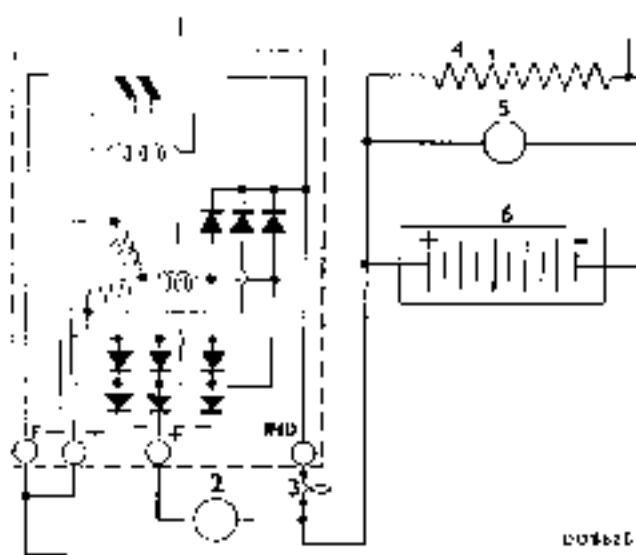

Fig. N.26
4. Connect test equipment to the alternator terminals as shown in Fig. N.26. The variable resistance must only be connected across the battery for the amount of time necessary to carry out these tests.